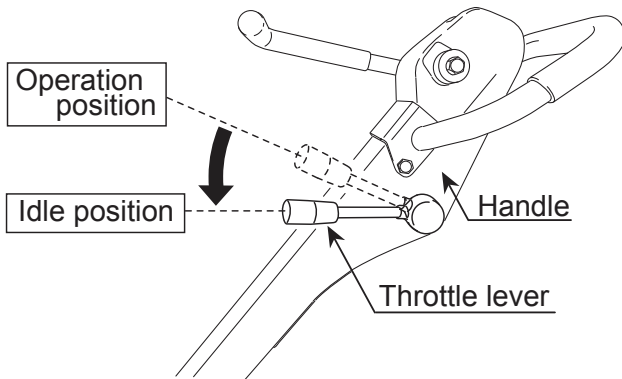

Figure 23. Throttle Lever (Idle)
1. Move the throttle lever to the **idle** position (Figure 23) and run the engine for three minutes at low speed.